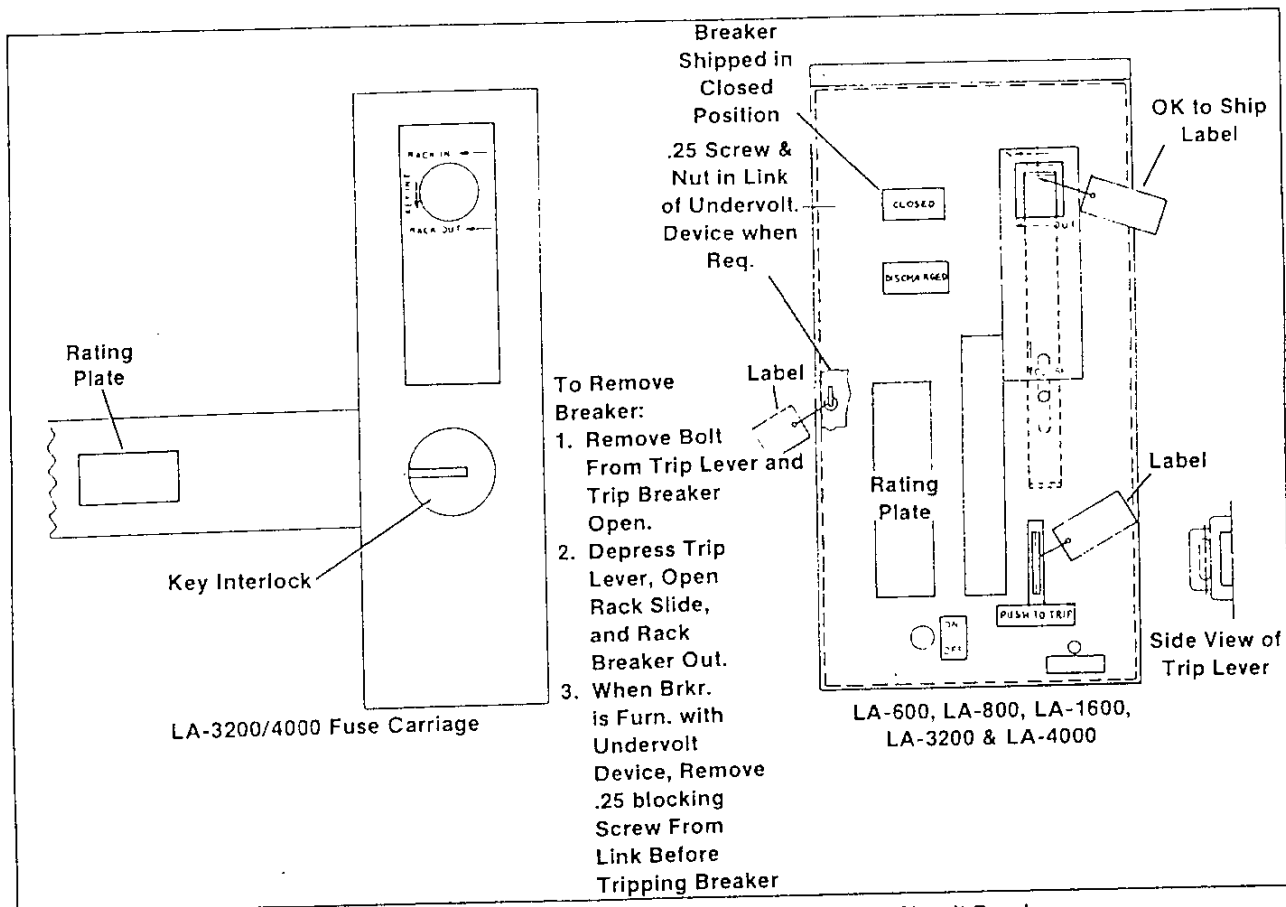

Figure 28. Remove all Tags and Blocking Before Opening Circuit Breaker
2. Circuit breakers are shipped in the closed position and are blocked to prevent accidental tripping during shipment. Remove all blocking and tags before opening circuit breaker. (See Figure 28). If breakers are shipped separately, the procedures for installation are outlined below. If breakers are shipped in their respective switchgear compartment, follow instructions in Figure 28 to remove from switchgear.